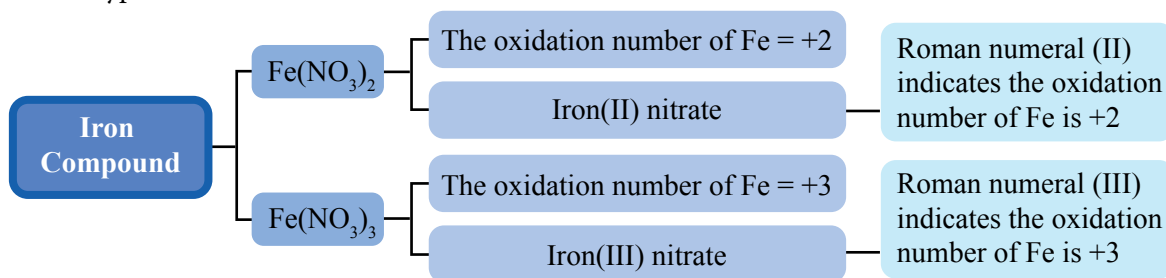

Figure 1.4 Naming according to the IUPAC system for iron compound
- For example, Figure 1.4 shows iron that forms two types of nitrates.